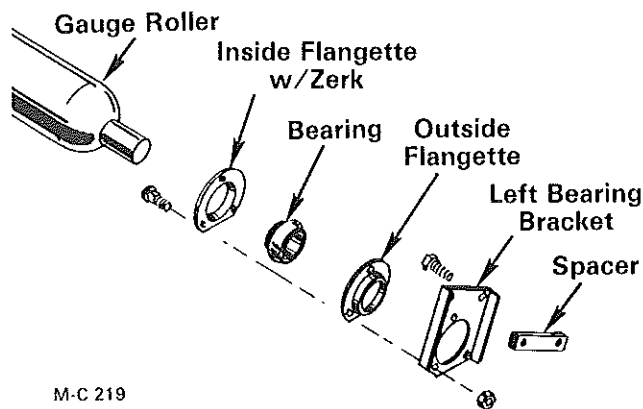

Figure 28
6. Place the locking side of the bearing into the flangette with the lubrication fitting. Mount the bearing with flangettes to the flat side of the bearing bracket with three ¾ inch carriage bolts and new locknuts, see Figure 28. Do not fully tighten the locknuts.
8. Lift the gauge roller into position. Place a bearing spacer between each bearing bracket and the Lawn Genie body, see Figure 28. Bolt the bearing brackets to the body with ½ inch capscrews, lockwashers and hex-nuts.